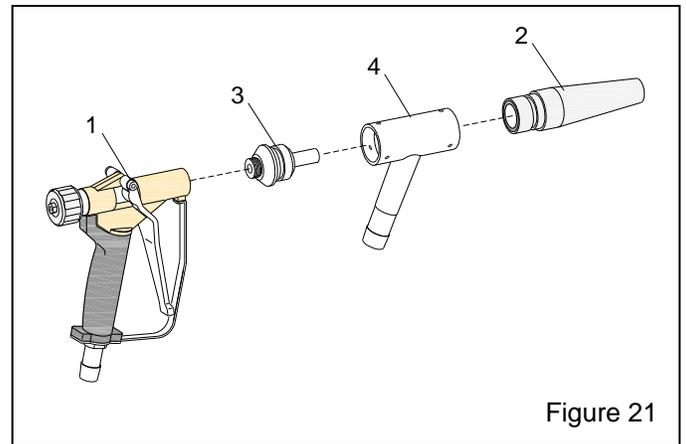

Figure 21
9.3 Blast Gun Assembly, Dry Blast – Figure 21